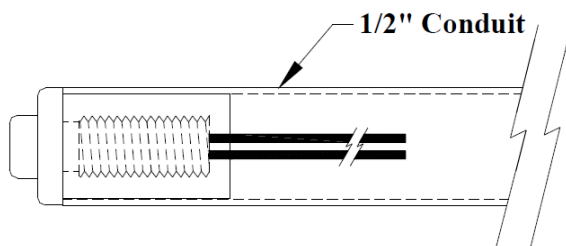

Figure 3
First insert the button sensor (2) wires through the top of 1" or 2" Delrin spacer. Now thread the 1" or 2" Delrin spacer onto the back of the button sensor. Now make all of the wire connections using either crimp on connectors or wire nuts. A small piece of foam or insulation may be inserted into the bottom of the 1" or 2" Delrin spacer to better insulate the sensor if necessary. Next insert the button sensor assembly into the 1/2" conduit until it is flush to the end of the conduit as shown in Figure 3 below. You may need to tap the button sensor assembly using a 3/8" socket and hammer for it to go into the conduit.